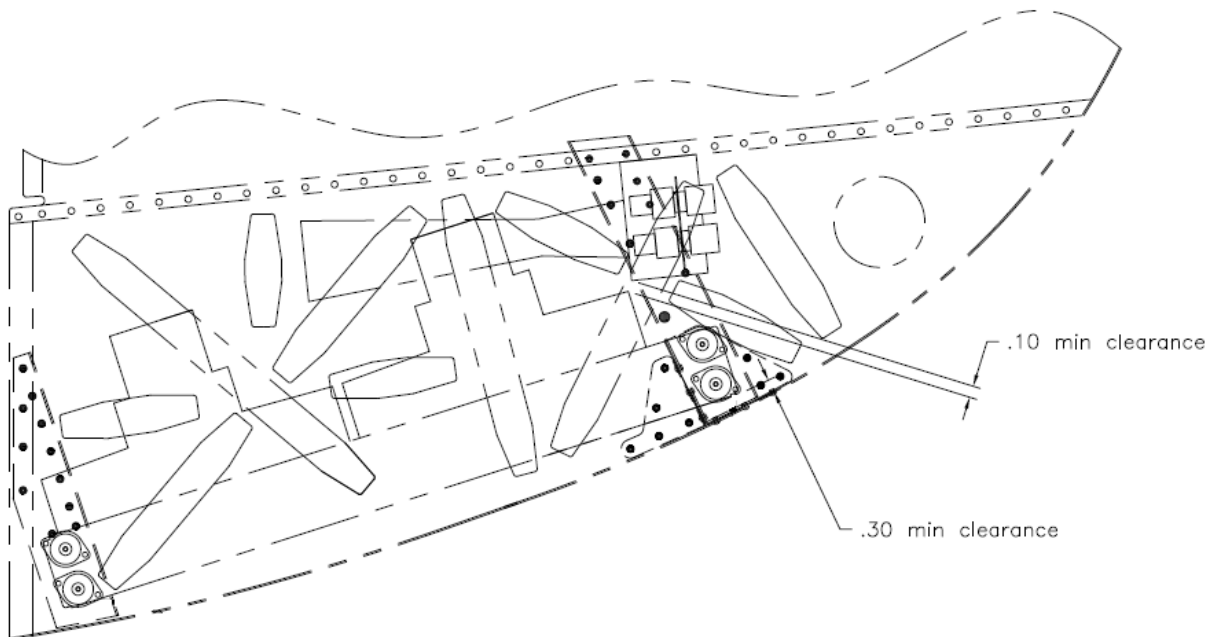

Figure 3: Condenser Installation Clearance
6. After obtaining the required clearance, mark outboard hole location on both tubes. Remove tubes from the aircraft, then drill one $\text{\O}0.171$ hole for screw and one $\text{\O}0.070$ in. hole for safety wire. See Figure 3 for more information.